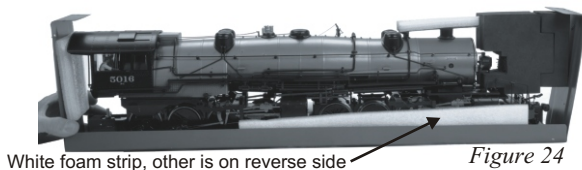

Figure 24
11. Set the engine and shipping frame upright as shown in Fig. 24.
12. Slide the white foam strips into the gap between the sides of the shipping frame in the areas of the drive wheels and the cylinders (Fig. 24.)